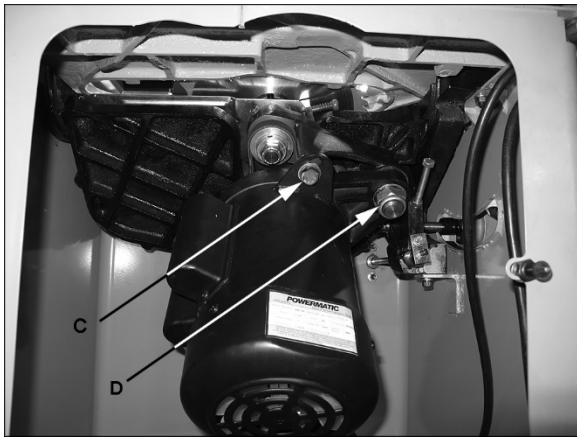

Figure 29
Refer to Figure 29.
2. Loosen screw (C, Figure 29) with 8mm hex key.
3. Press down on motor while retightening screw (C).